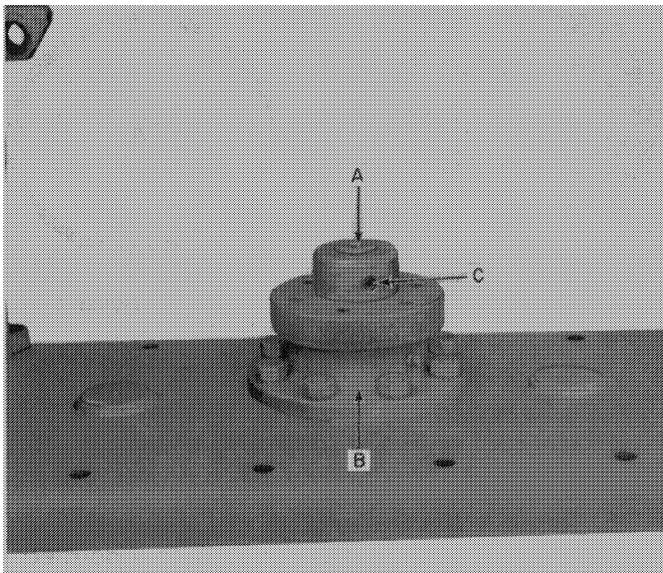

FIGURE 12
1. Each disc gear shaft A, Figure 12, is supported with two bearings inside housing B. To remove bearings remove roll pin C from disc hub.